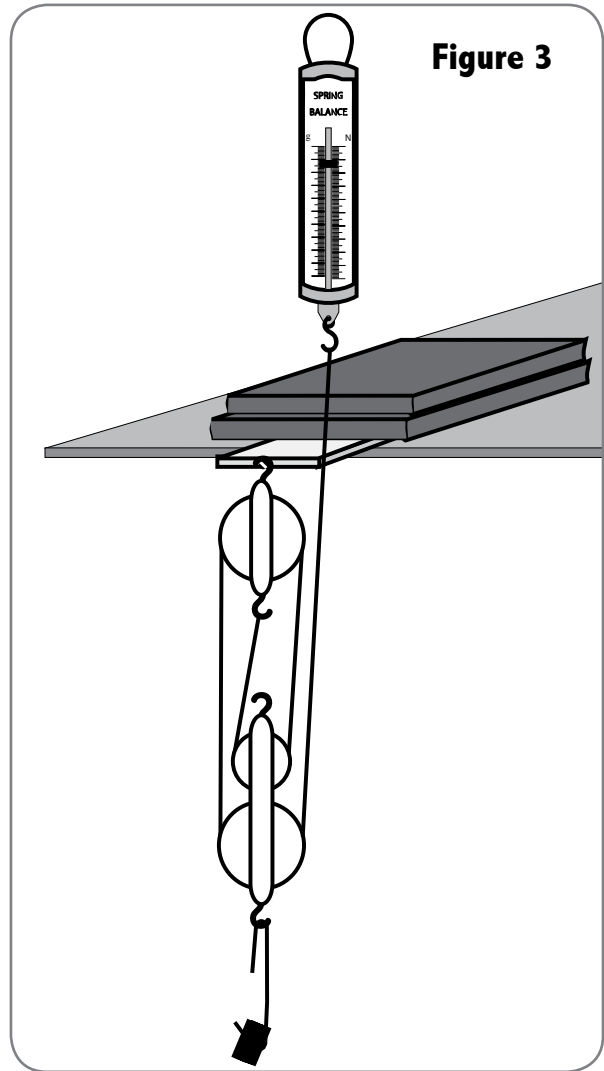

Figure 3
5. Set up the pulley system as shown in Figure 3. This is Setup 3. Repeat steps 2 and 3. Again, the resistance force is the total weight of the five washers and the tandem pulley